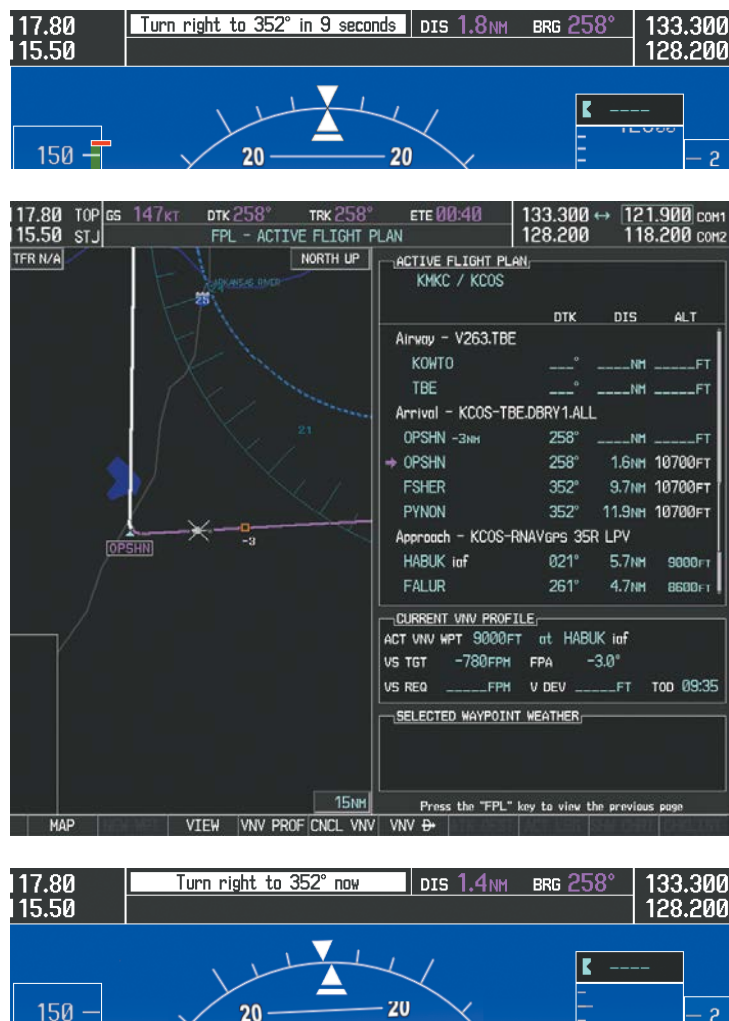

Figure 5-140 Turn to intercept OPSHN to FSHER Leg
- 18) The aircraft is approaching OPSHN. The upcoming turn and next heading are annunciated at the top left of the PFD as seen in Figure 5-140. Initiate the turn and maneuver the aircraft on a track through the turn radius to intercept the magenta line for the OPSHN to FSHER leg and center the CDI.